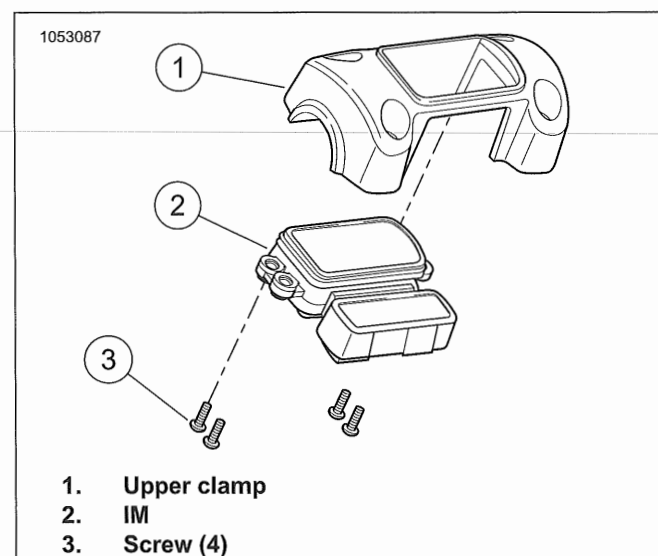

Figure 7-29. IM: FXBB, FXBR, FXBRS
- See Figure 7-29. Remove IM (2).
- Remove screws (3).
- Remove IM from upper clamp (1).
- See Figure 7-29. Install IM (2).
- Align IM in upper clamp (1).
- Install screws (3). Tighten.